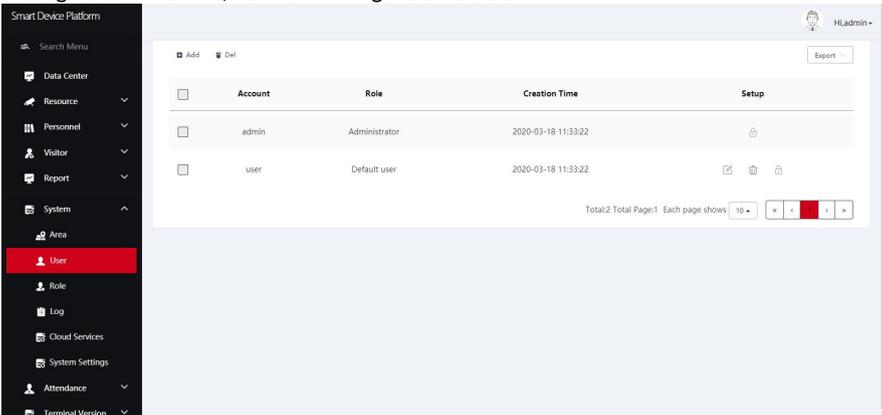

Figure 5-66
Step 1: In the smart device platform interface, click "System→User" to enter the user management interface, as shown in Figure 5-66 below.